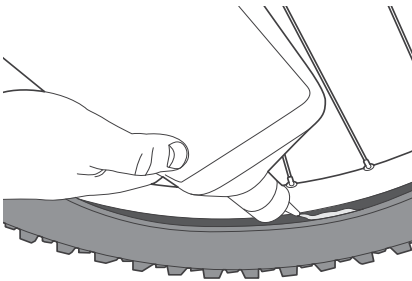

Figure 20. Pour sealant into the open section of tire.
3. Pour the sealant into the open section of tire (Figure 20).